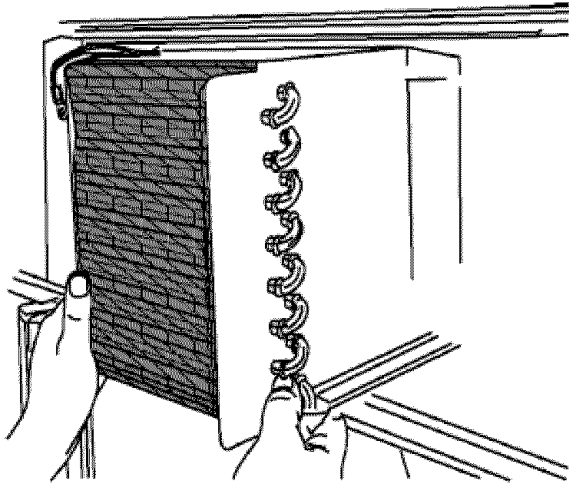

Figure 3
4. Slide the highside assembly forward into the service position. (See figure 3).